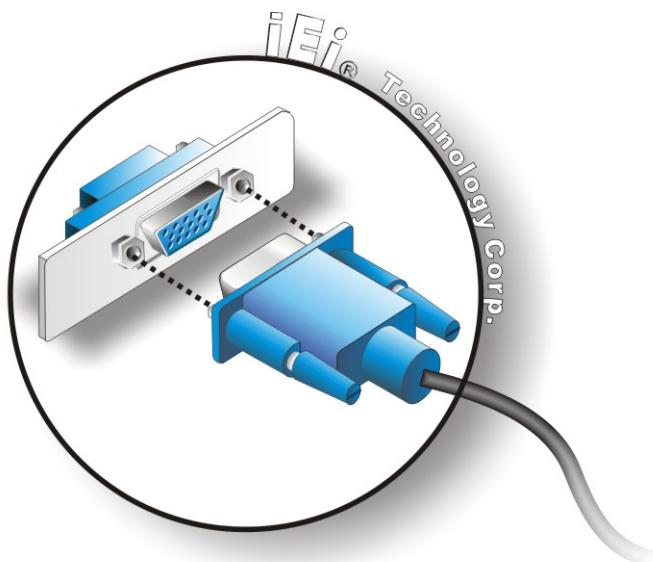

Figure 4-14: VGA Connector
Step 3: Insert the VGA connector Once the connectors are properly aligned with the insert the male connector from the VGA screen into the female connector on the WSB-PV-D4251/D5251. See Figure 4-14.